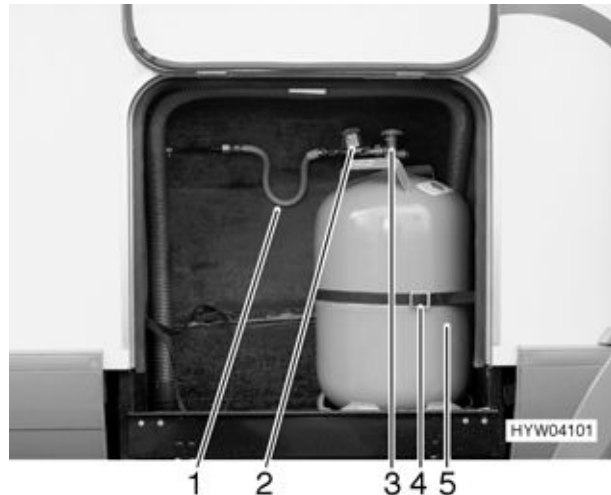

Fig. 102 Gas bottle compartment
- Close regulator tap (Fig. 102,3) on the gas bottle (Fig. 102,5). Pay attention to the direction of the arrow.
- Unscrew the gas pressure regulator (Fig. 102,2) with the gas tube (Fig. 102,1) from the gas bottle with a suitable gas spanner.
- Release the fixing belt (Fig. 102,4) and remove the gas bottle.